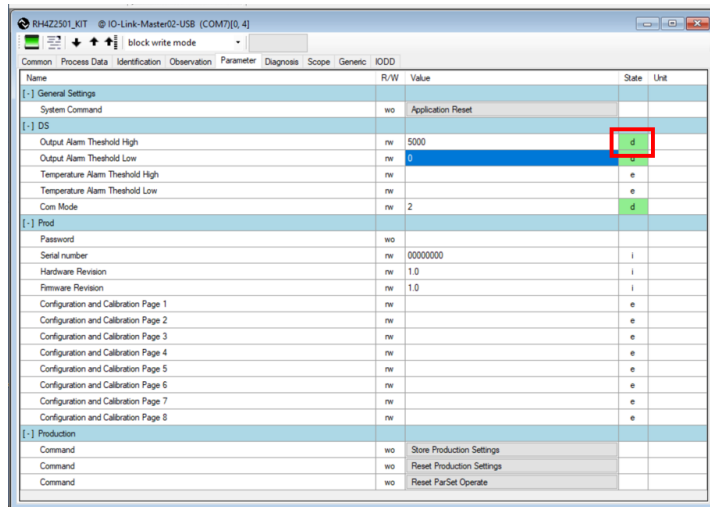

Figure 15. Parameter Transfer Status Verification
- d. Upon successful update, the state becomes green, see Figure 15.